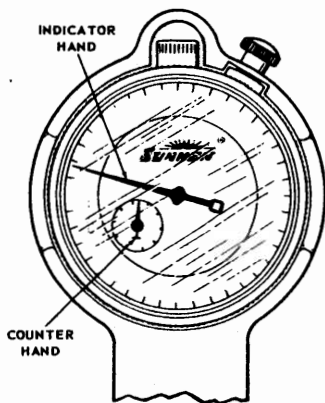

FIGURE 9
5. Slightly twisting the Indicator Housing and Extension Sleeve Assembly from side to side, slide them together until Indicator Hand just begins to move clockwise . . . then, reverse direction, pulling units apart until Indicator Hand is between 9 o'clock and 10 o'clock (see Figure 9). Tighten Indicator Locking Screw firmly at this point.